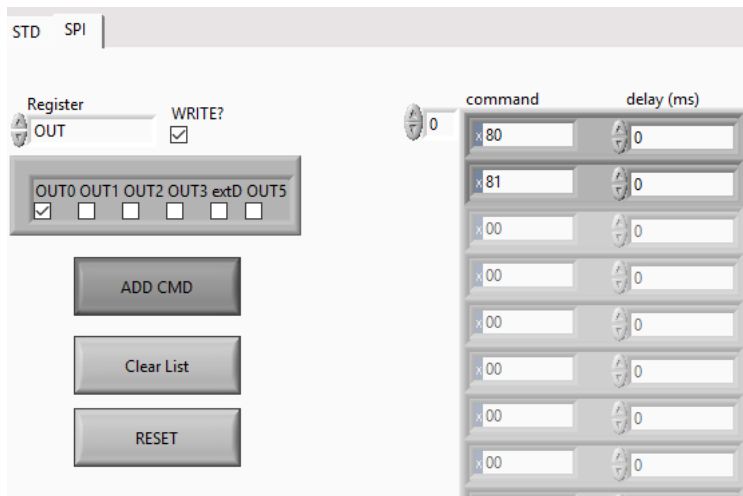

Figure 24 - Add to command list
- Click ADD CMD (See Figure 24)